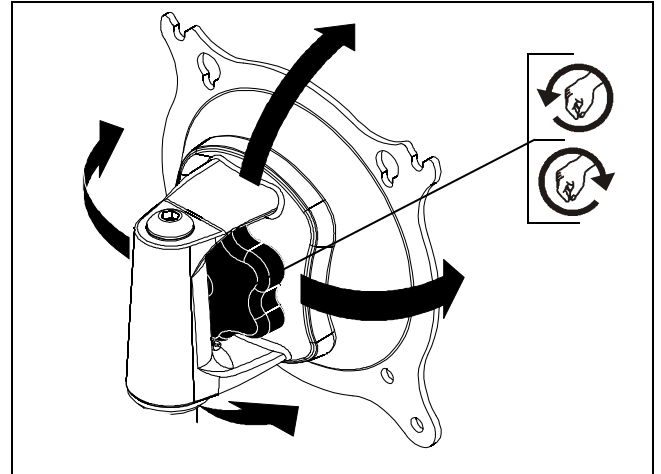

Figure 6
- Turn adjustment knob, located on back of Centris Turntite head, clockwise to increase tension or counter-clockwise to decrease. (See Figure 6)